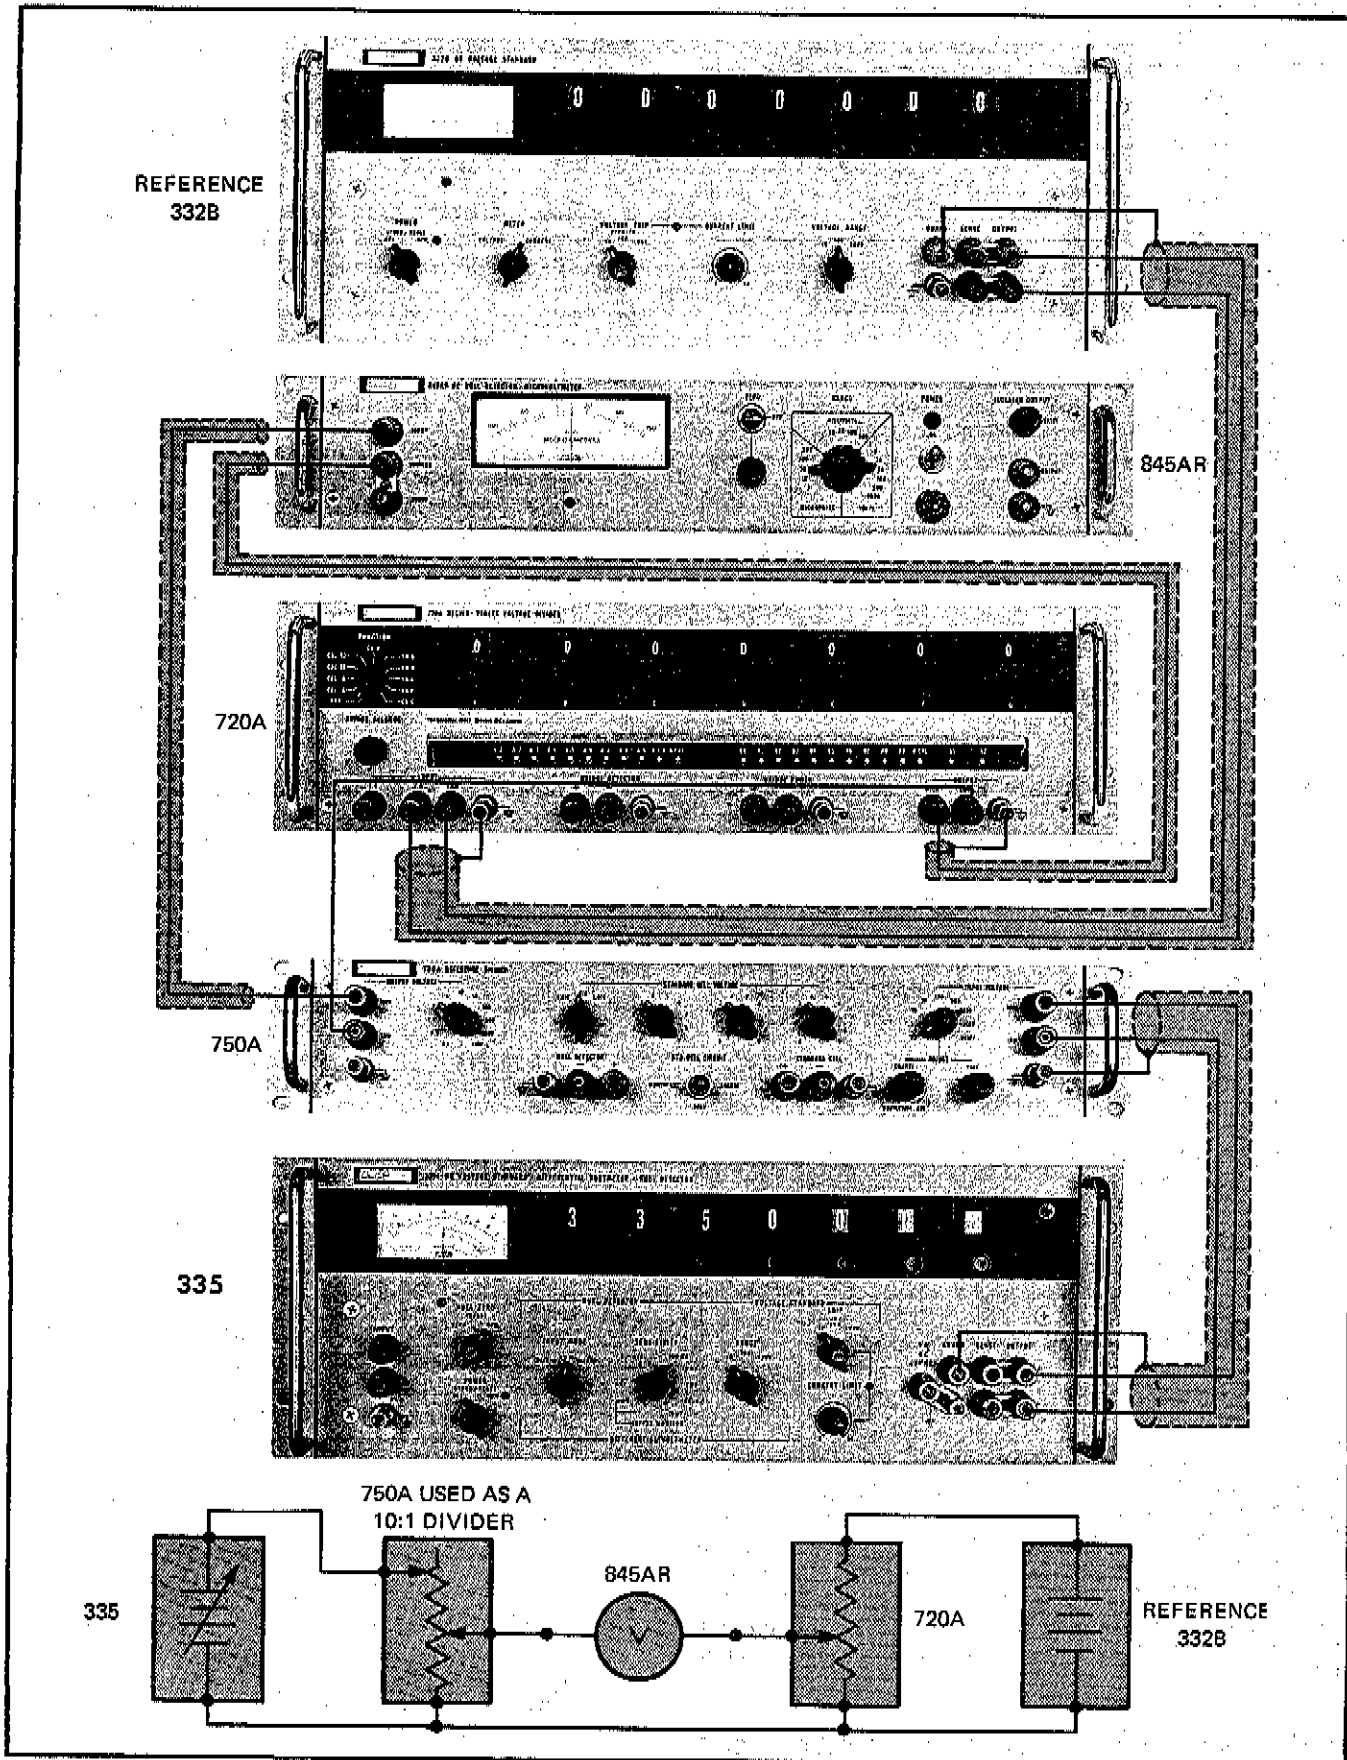

Figure 4-11. CONNECTIONS FOR LINEARIZATION ADJUSTMENT
- Connect the equipment as shown in Figure 4-11.